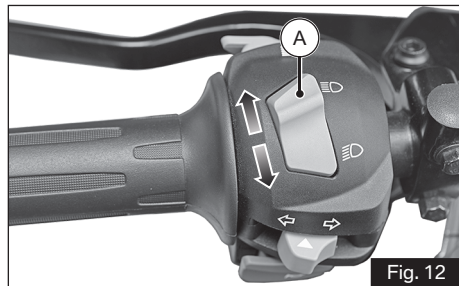

Fig. 12
A) Switch beam control (ref. Fig. 12)